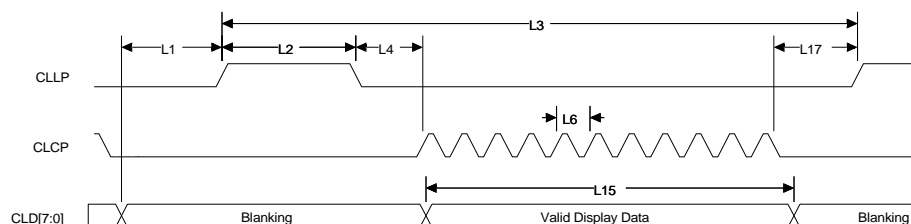
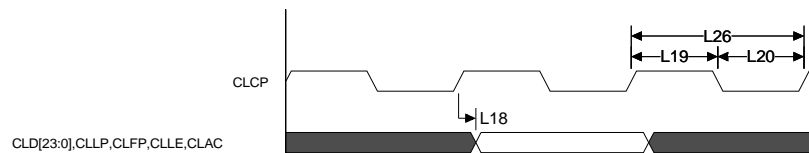

Figure 126: Horizontal timing for STN displays
Figure 132: LCD output timing
Table 479 describes the values shown in the LCD timing diagrams (Figure 126 through Figure 132).
- 7 Note that data is sampled by the LCD panel on the falling edge of the CLCP in Figure 132, "LCD output timing," on page 817). If the polarity of CLCP is inverted, this parameter is relative to CLCP falling, instead.